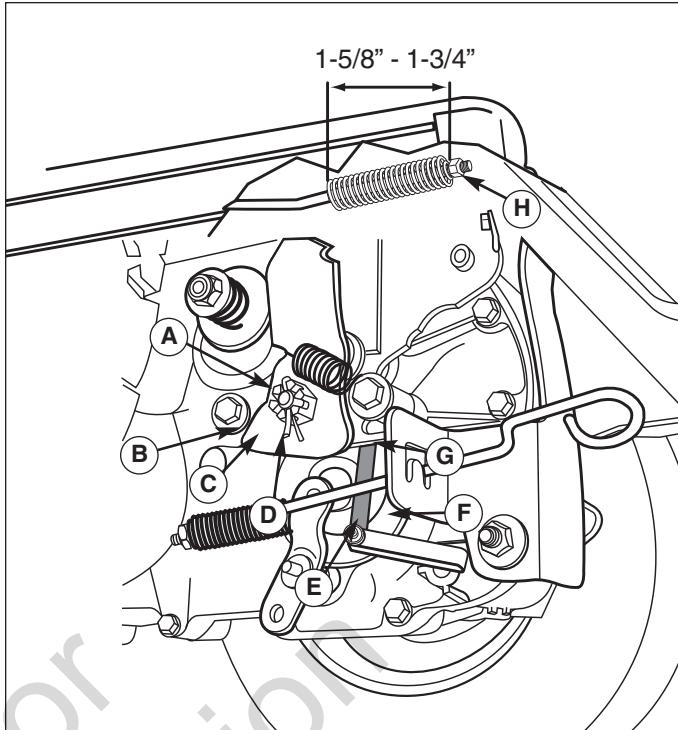

Figure 25. Brake Adjustment
2. Brake arm (C, Figure 25) should be touching stop (B).
3. Remove cotter pin (D) and loosen the castle nut (A). Place a 0.015" feeler gauge (E) gap between the brake disc (F) and the brake puck (G).
- a. To decrease gap, insert feeler gauge in gap and turn nut (A) clockwise until resistance is felt on the feeler gauge. To increase gap, turn nut (A) counter-clockwise and recheck gap.
4. Set the parking brake. Loosen or tighten adjustment nut (H) to achieve a 1-5/8" - 1-3/4" compressed spring length as shown in Figure 25.